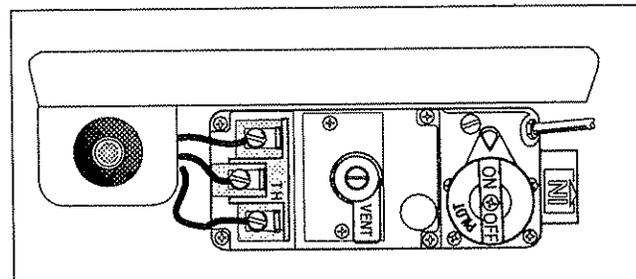

Fig. 4 Gas Control Valve / "ON"
Step 6. Turn the gas control knob counter-clockwise to "ON." Fig. 4.